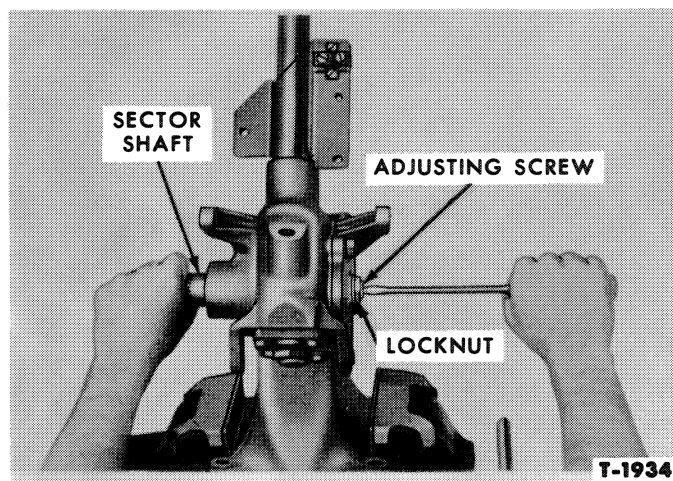

Figure 22—Adjusting Sector Shaft End Play
12. Adjust the sector shaft end play as shown in Figure 22. Using the Pitman arm for leverage, rotate the shaft back and forth while tightening the adjusting screw. Proper adjustment exists when there is no perceptible end play and the shaft does not bind.